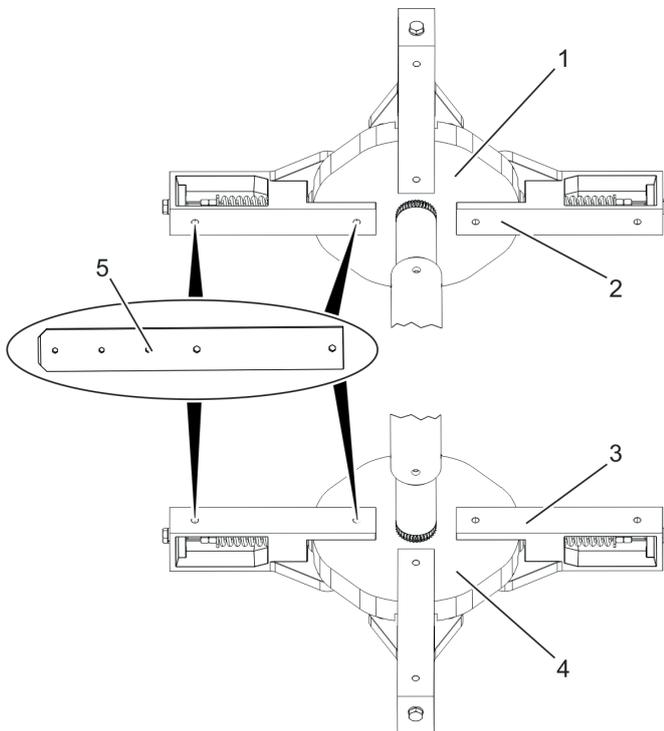

Fig. 96 Cross fitting (example)
17. Assemble the wing fittings (4x) (Fig. 96/5) on the upper and lower cross fitting (Fig. 96/3 + 4) with the chamfered edge on the outside.